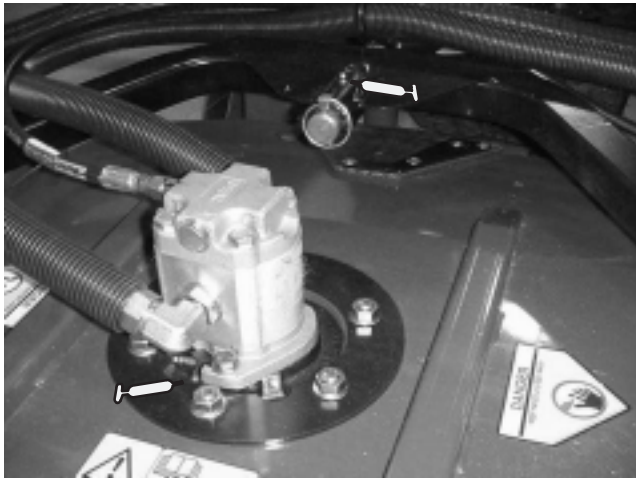

Figure 24
- Cutting unit spindle shaft bearings (1 per cutting unit) (Fig. 24)
- Cutting unit carrier arm bushings (1 per cutting unit) (Fig. 24)